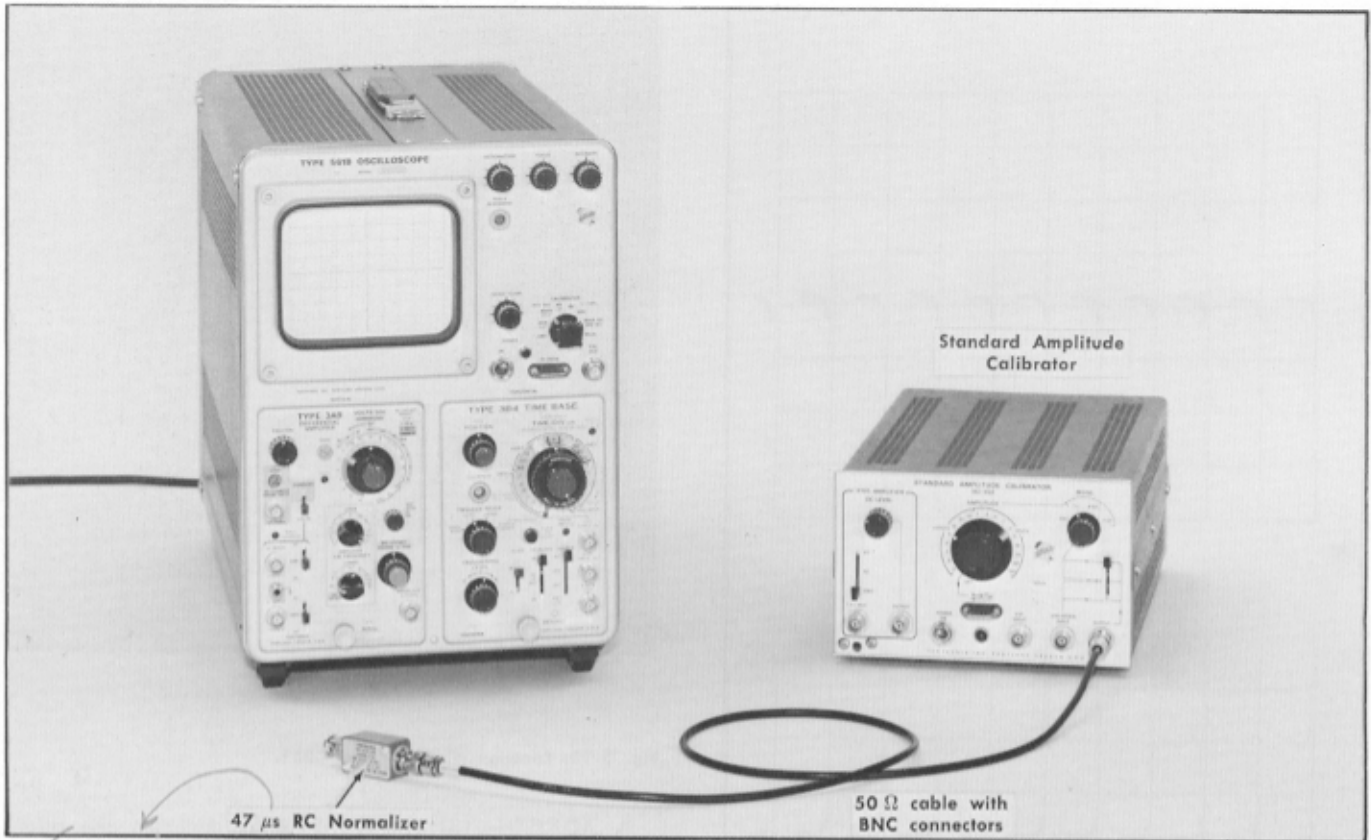

Fig. 5-14. Equipment required for steps 14 and 15.
- a. Test equipment is shown in Fig. 5-14.